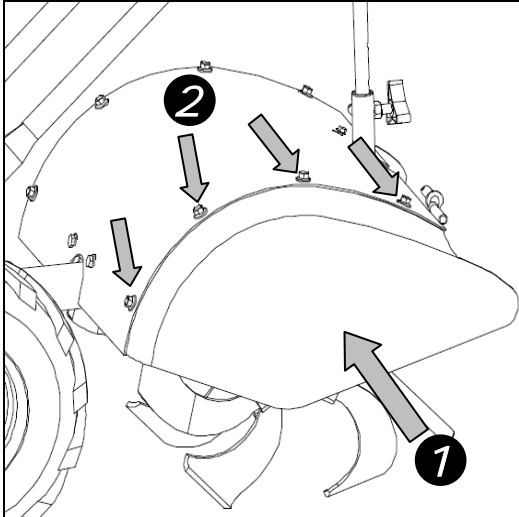

Fig.7
**STEP5 Attach the side covers (Fig.7)**
1. Tighten the side cover ①(Fig.7) by four bolts and washers ②(Fig.7), tension washers and nuts half and fix all assembling holes in the right position with the side cover.